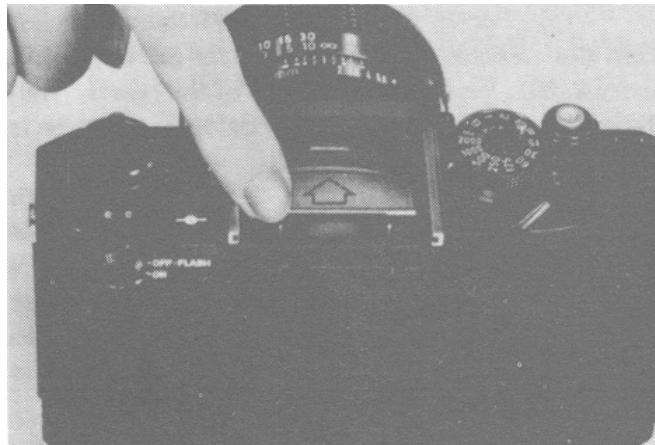

FIGURE 1-30. Removing viewfinder screen.
(5) Remove the viewfinder screen by lifting up on the rear edge with your fingernail (figure 1-30). (There is a notch on each side to make this easier.)
(6) For easier cleaning of the viewing window, unscrew the eyepiece ring.